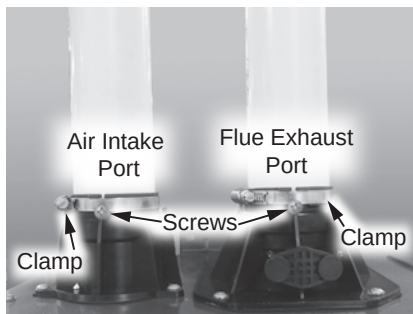

Figure 211 - Flue exhaust port and intake air port location
2 Locate the flue exhaust port and intake air port. See Figure 211.
3 Remove the two (2) screws securing the intake air and exhaust piping to the ports. Place the screws aside in a safe place for reinstallation. See Figure 211.
See Figure 211.